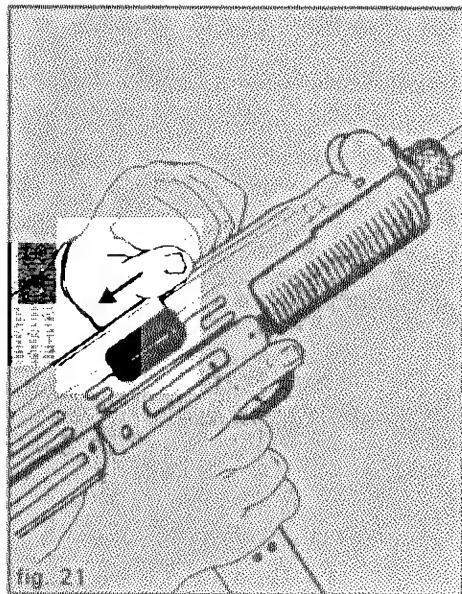

fig. 21
4. While fully depressing the safety grip, pull cocking knob all the way back and release knob instantly to allow bolt to snap forward. (fig. 21)